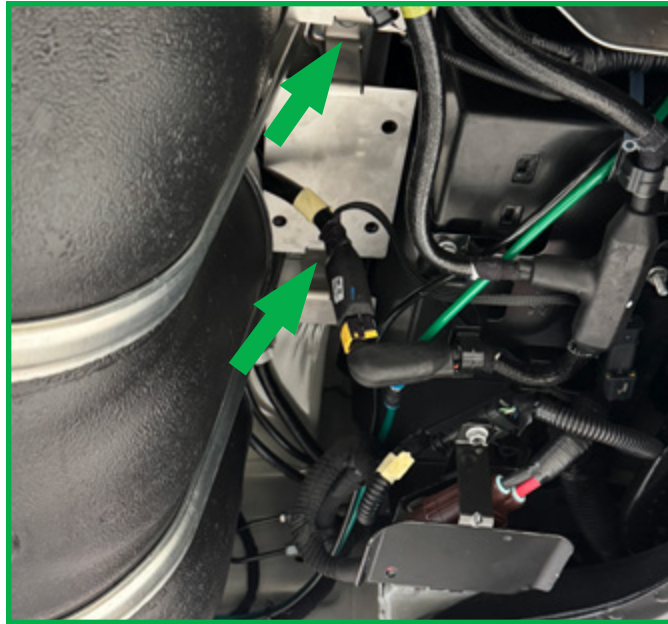

FIGURE 7
6. Release the two screws holding the fuel tank straps. **Make sure to not turn it more than 4 times.** (Figure 7)